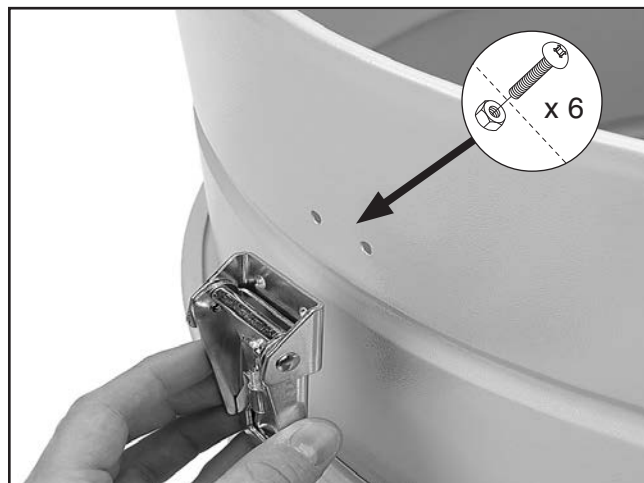

Figure 30. Installing the latches onto the collector drum.
26. Install the three drum latches, as shown in **Figure 30**, with the (6) 10-24 x $\frac{3}{8}$ " Phillips head screws and (6) 10-24 hex nuts included in the box with the drum latches.